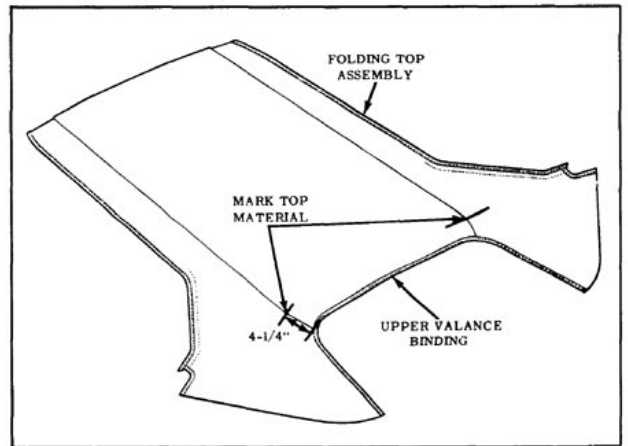

Fig. 16-141 Marking Top Material
22. Using a pencil, mark top material (mark should be approximately 1/2" in length) at deck seam 4-1/4" from edge of top material upper valance binding. (Fig. 16-141)